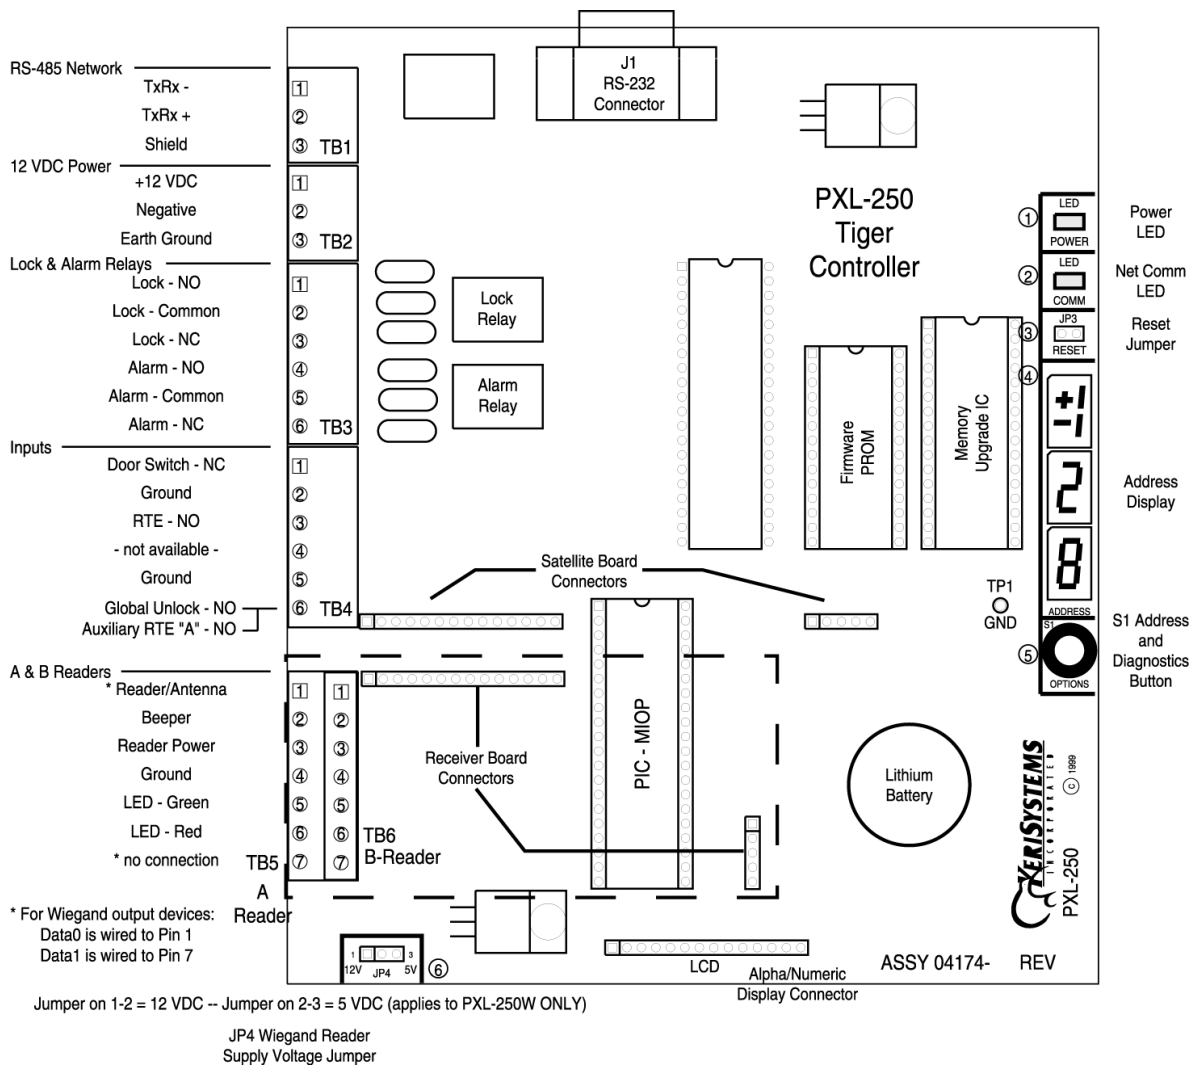

Figure 2: Through-Hole PXL-250 Controller
- For a through-hole controller, use Figure 2 on page 6 as a reference.